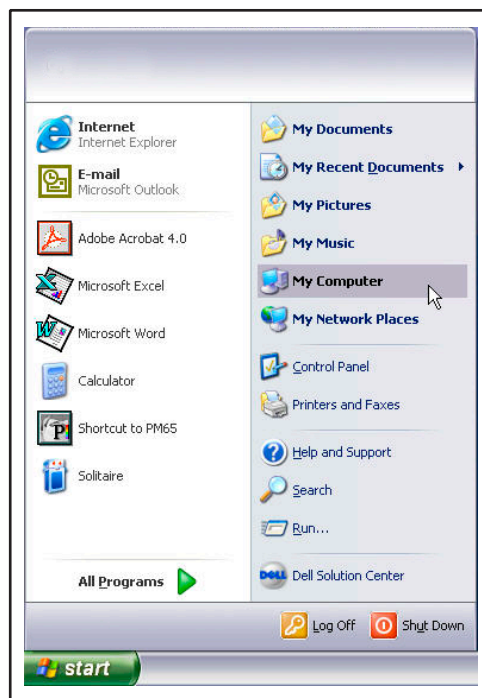

Figure 2-4 Selecting My Computer (Windows XP)
The computer operating system (OS) must be Microsoft 32 or 64 bit versions of: Windows XP, Windows Vista, or Windows 7. To determine which version of Windows you have, select My Computer in the Windows Start menu as shown in Figure 2-4.